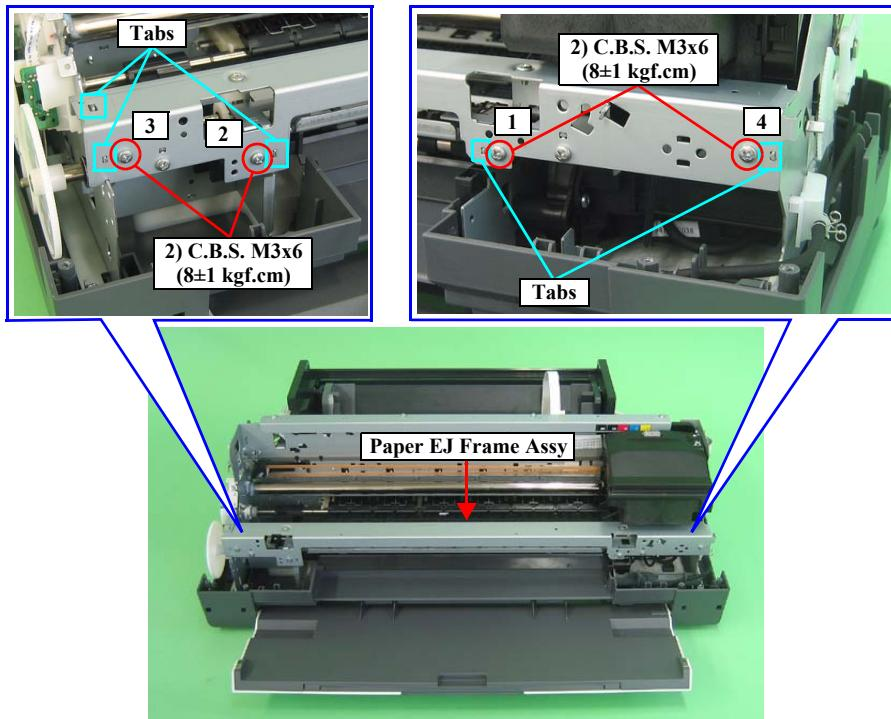

Figure 3-106. Screws that Secure the Paper EJ Frame Assy
See Figure 3-106 \(p.82\)
- Tighten the screws in the order shown in Figure 3-106